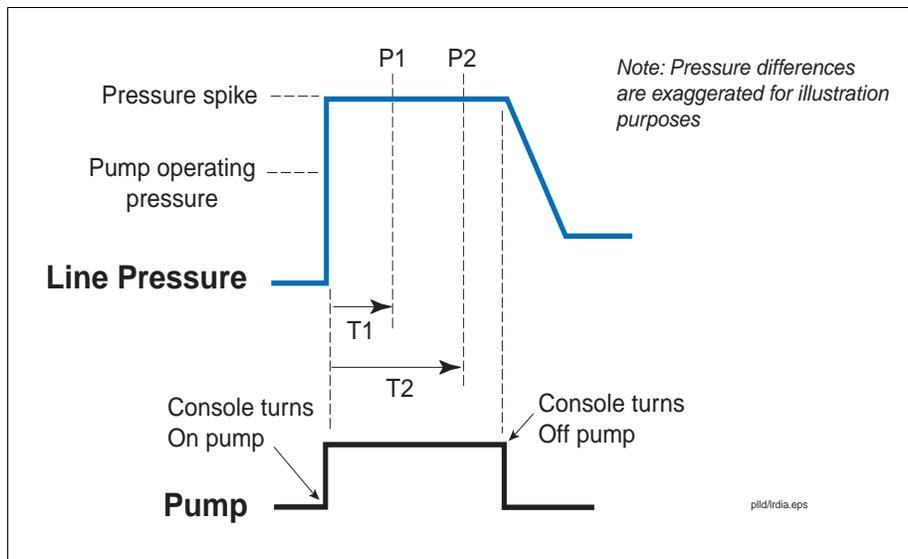

Figure 6. Leak Rate Calculation
When the pump is turned On a pressure spike is trapped in the line (Figure 6). After a waiting time T_1 , the reference pressure P_1 is measured. After waiting time T_2 , pressure P_2 is measured. A leak rate (LR) is calculated using the values T_1 , T_2 , P_1 , and P_2 .